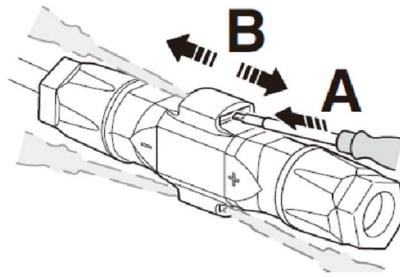

Figure 5-10
- 1). Insert the screwdriver into one of the four openings (Figure 5-10, A).
- 2). Leave the screwdriver in the opening. Pull the two connectors apart (Figure 5-10, B).